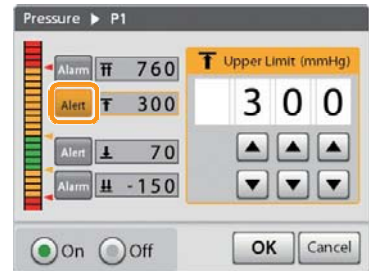

Figure 3-14
8. Tap [Alert] of the upper limit. (Figure 3-14)